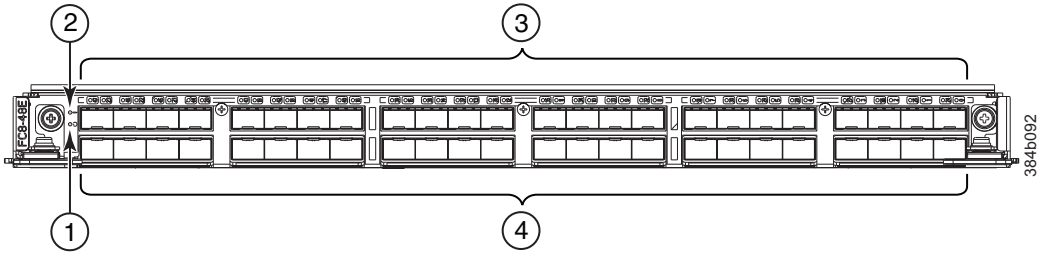

Figure 57. FC8-48E port blade
- Figure 57 on page 153 shows an FC8-48E port blade